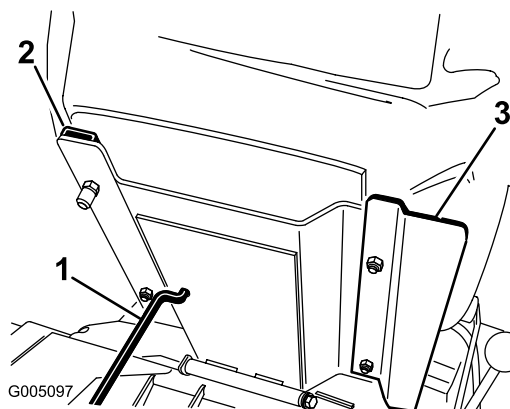
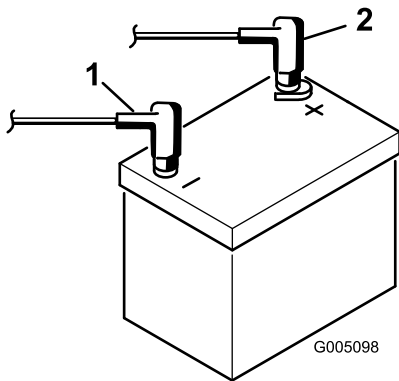

Figure 5
Figure 6
3. Secure the seat, seat panel, and seat slides to the seat support with the locknuts (5/16 in.) (Fig. 6) supplied in the loose parts. Mount the seat panel on the right side, positioned as shown in Figure 5.
2. Connect the positive battery cable (red) from the starter solenoid to the positive post (+) of the battery (Figure 6). Secure it with a wrench and coat the terminal with petroleum jelly. Make sure the cable will clear the seat, in the rear-most position, which could cause wear or damage to the cable.